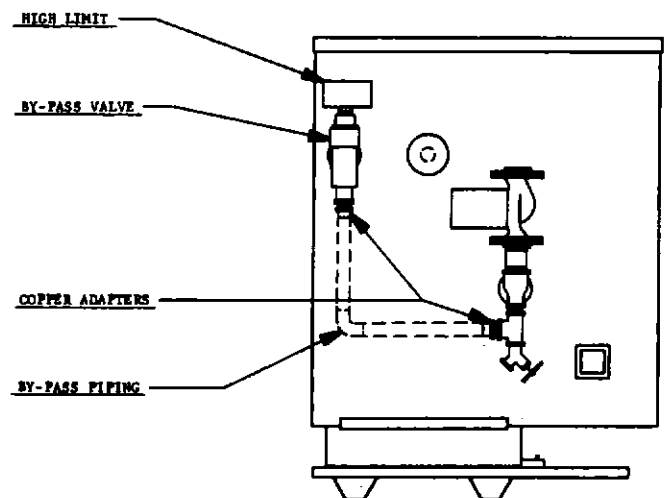

Figure 2
NOTE: THIS BOILER IS PROVIDED WITH A "THERMOSTATIC BY-PASS VALVE" THAT REDUCES THE POSSIBILITY OF CONDENSATION WITHIN THE FLUEWAYS, BY NOT ALLOWING RETURN WATER BELOW 160°F FROM ENTERING THE BOILER. BETWEEN 160°F AND 180°F, SYSTEM WATER FLOWS THROUGH THE BY-PASS LOOP AND THE BOILER. AT 180°F THE THERMOSTATIC ELEMENT IN THE BY-PASS VALVE IS FULLY OPENED ALLOWING ALL WATER TO FLOW THROUGH THE BOILER. REFER TO FIGURE 2.
B. The bypass piping shall be installed as shown in Figure 2. The 3/4" x 3/4" female adaptors are furnished with the boiler. The 3/4" copper pipe and 90° elbow are to be supplied by the installer.